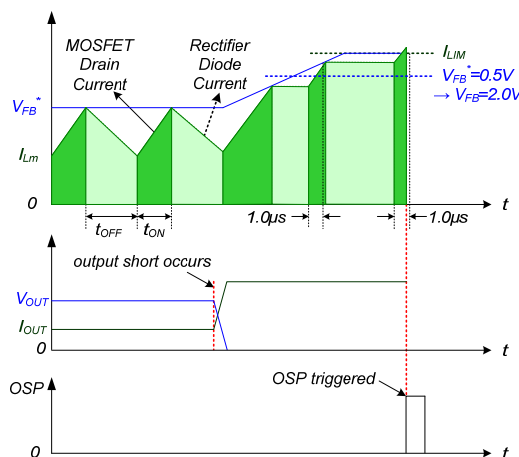

Figure 22. Output-Short Protection
4.3. Output-Short Protection (OSP): If the output is shorted, steep current with extremely high di/dt can flow through the SenseFET during the minimum turn-on time. Such a steep current brings high-voltage stress on the drain of the SenseFET when turned off. To protect the device from this abnormal condition, OSP is included. It is comprised of detecting V_{FB} and SenseFET turn-on time. When the V_{FB} is higher than 2.0 V and the SenseFET turn-on time is lower than 1.0 μ s, the FSD176MRT recognizes this condition as an abnormal error and shuts down PWM switching until V_{CC} reaches V_{START} again. An abnormal condition output short is shown in Figure 22.